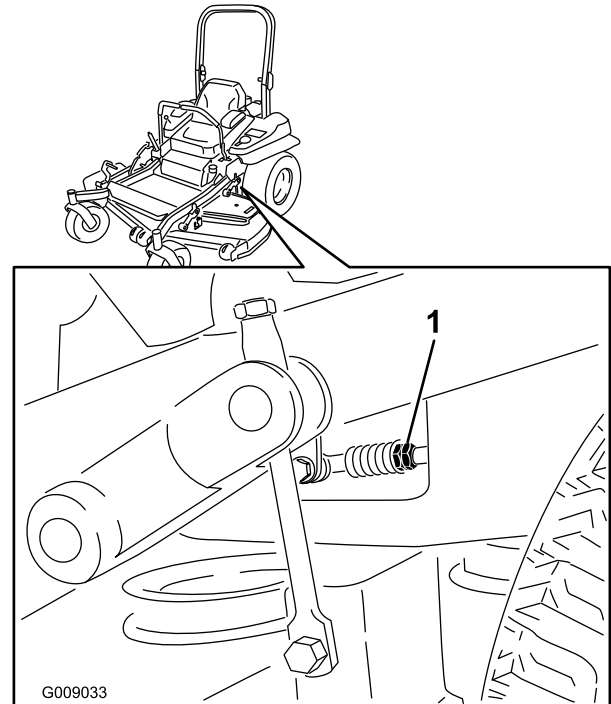

Figure 81
9. Adjust the pump control rod lengths by rotating the double nuts on the rod in the appropriate direction until the wheels slightly creep in reverse (Figure 81).